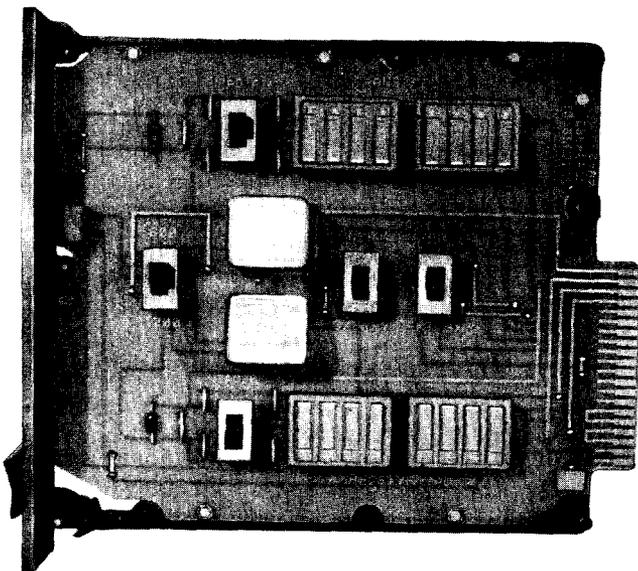

Fig. 2—J99343BD 4-4 Wire Transmission Unit Controls
2.02 Construction consists of circuit components located on a printed wiring board mounted on a die-cast frame. Five slide switches (Fig. 2) on the printed wiring board set the necessary options and configurations. These switches are discussed in Part 3 of this section.
be inserted when the designation of that switch is visible (see Fig. 2).